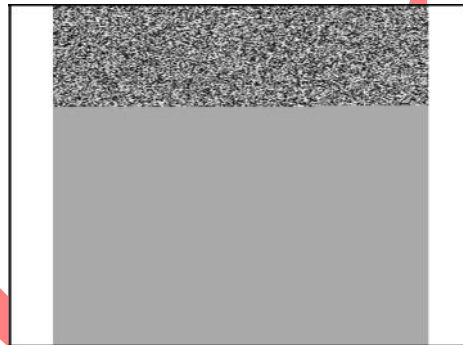

Figure 22
3. Place new gaskets or o-rings between control bracket (**D**, Figure 22), adapter (if equipped), and carburetor.